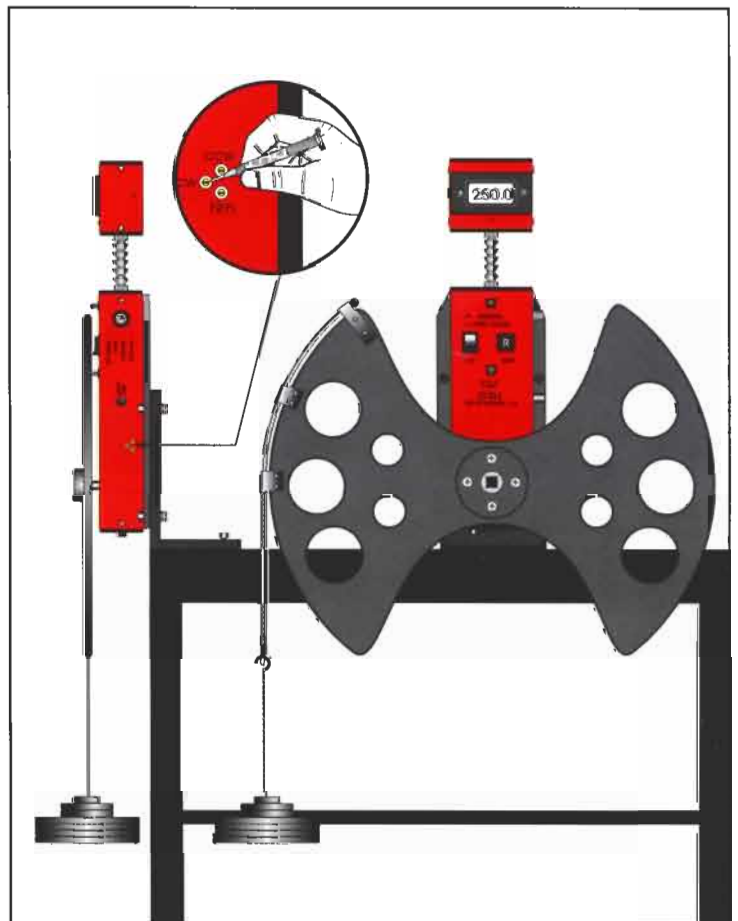

FIG. 1.7
- 9.) If the readings need to be adjusted, use the following procedure with the weights still hanging (see pg. 14 fig. 1.7): On the right hand side of the tester (as you are facing the unit), there are three holes through the housing of the E.T.T. (see fig 1.5 for reference). Sometimes these holes are covered by a “VOID IF BROKEN” sticker that will have to be removed. The top hole (see pg. 13) is the access to a potentiometer screw that adjusts the left hand (c.c.w.) direction torque value displayed on the LCD. The middle hole potentiometer screw adjusts the right hand (c.w.) direction. All adjustments can be made with a straight blade screwdriver small enough to fit in the adjusting hole. Turn the top of the potentiometer screw to the left or right until the targeted torque value appears on the LCD (in the example – 125.0).